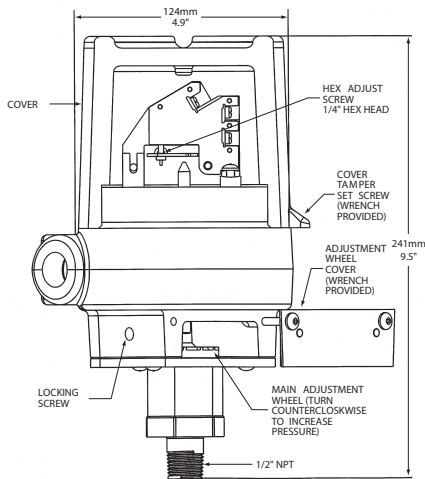

Figure 2. Electrical Connections
2. Mounting the Switch: The device is designed to be mounted in the upright or horizontal position; side mounting is also acceptable. Locate it where vibration, shock, and mechanical loading are minimal. Refer to piping diagram (Fig. 2 on page 2).